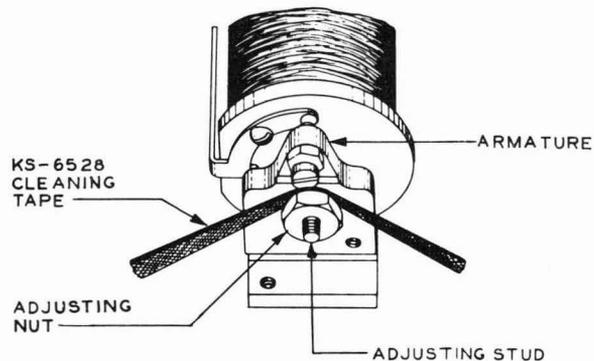

Fig. 58 – Method of Cleaning Adjusting Stud and Adjusting Nut on 89-, 101-, 105-, 108-, and 172-type Relays
7.20 To clean the adjusting stud and adjusting nut, pass the tape back and forth between the armature and the nut above and below the adjusting stud as shown in Fig. 58, holding the armature in the unoperated position while drawing the tape through.